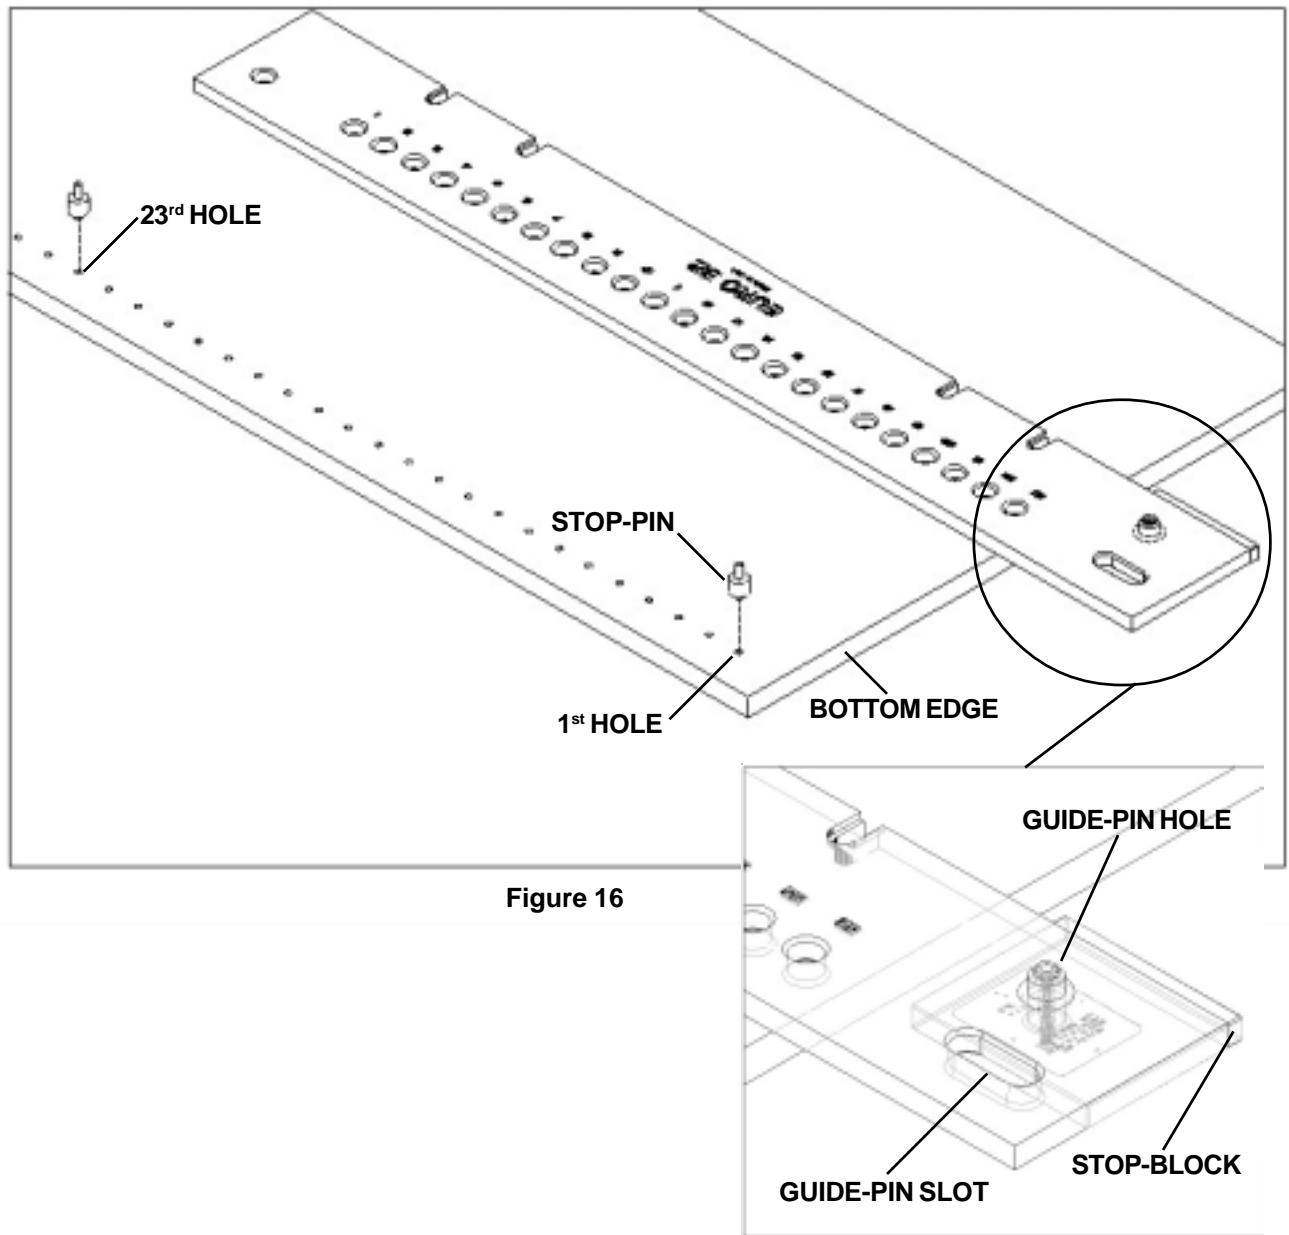

Figure 16
1. Take the two stop-pins and place one in the 1st hole up from the bottom edge of the work-piece and place the second stop-pin in the 23rd hole as shown in Figure 16.
2. Remove the clamp-blocks from the hole-boring template. Position the hole-boring template so that the hole marked 23 is now at the bottom edge of the work-piece as shown in Figure 16.
3. Attached the stop-block in the guide-pin hole that is below the guide-pin slot with the desired starting hole dimension facing hole number 23 of the hole-boring template as shown in Figures 16.